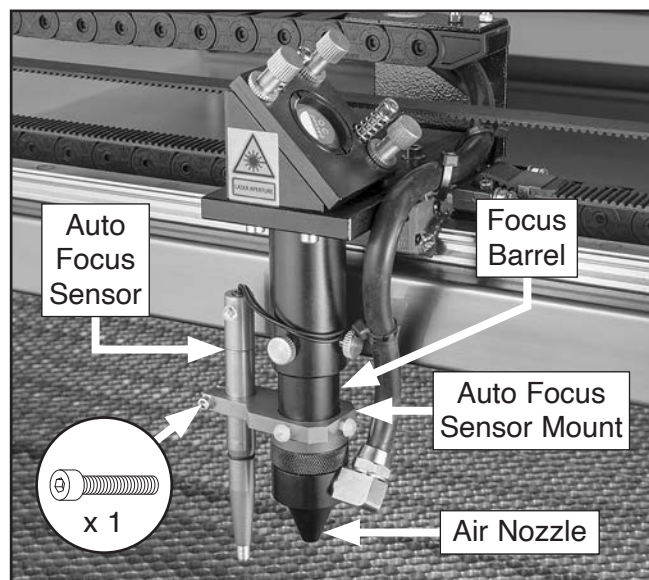

Figure 46. Auto focus sensor components.
6. Loosen (1) cap screw on auto focus sensor mount, raise auto focus sensor even with tip of air nozzle, then tighten cap screw (see **Figure 46**).
9. Loosen (1) cap screw on auto focus sensor mount, lower auto focus sensor flush with workpiece, then tighten cap screw (see **Figure 46**).